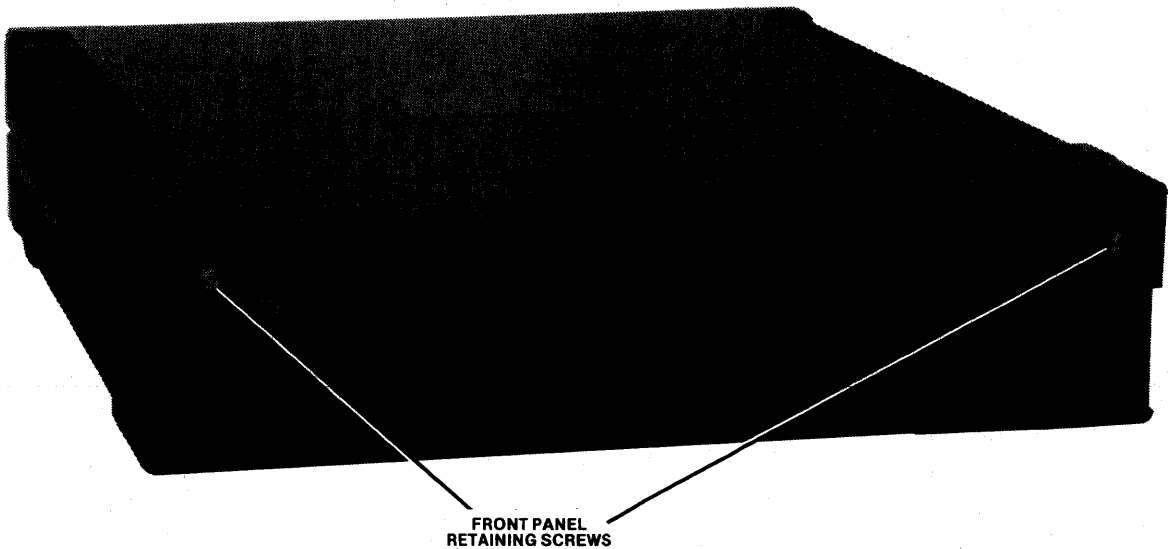

Figure 5-1. Expansion Chassis (Front View)
- a. Referring to figure 5-1, rotate the two expansion chassis front panel retaining screws counter-clockwise and remove front panel.
- i. Referring to figure 5-1, rotate the two expansion chassis front panel retaining screws counter-clockwise and remove front panel.
- j. Loosen the six expansion chassis top cover retaining screws and remove top cover. (Refer to figures 5-1 and 5-2.)